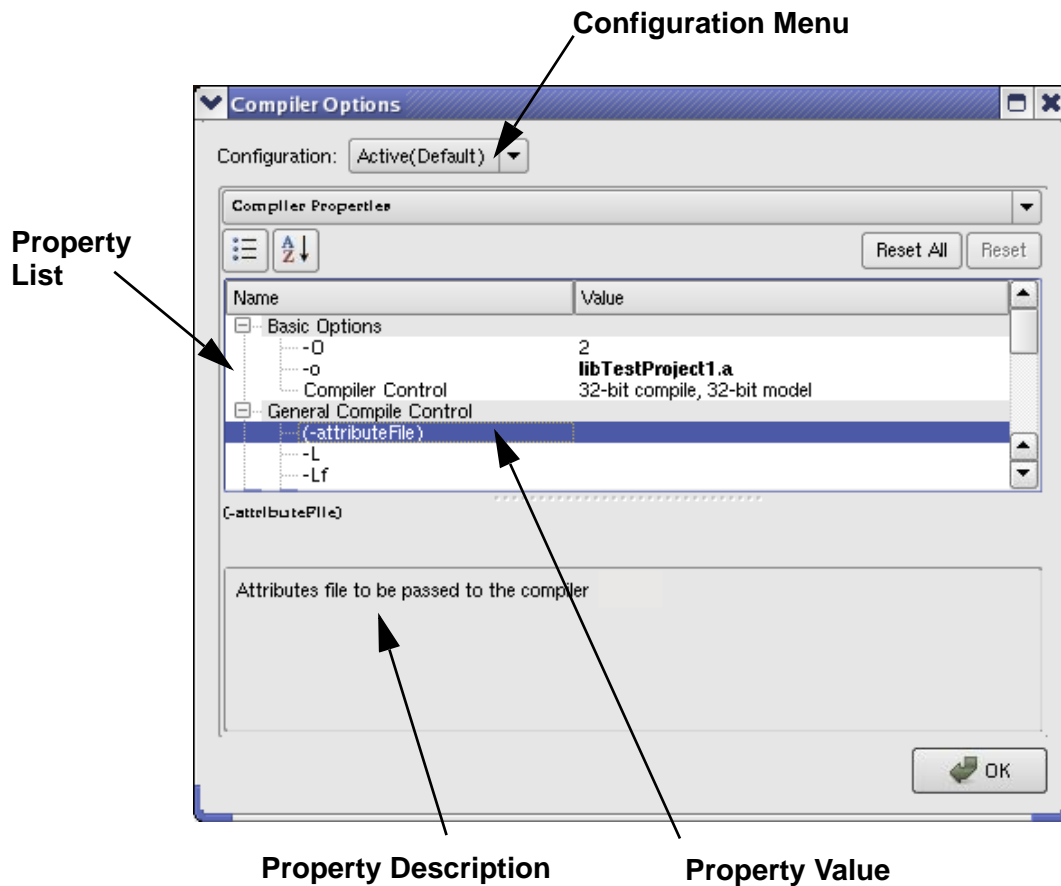

Figure 2-11 Compiler Options Dialog Box
1. From the *Project* menu, select *Compiler Settings* to display the *Compiler Options* dialog, shown in Figure 2-11.